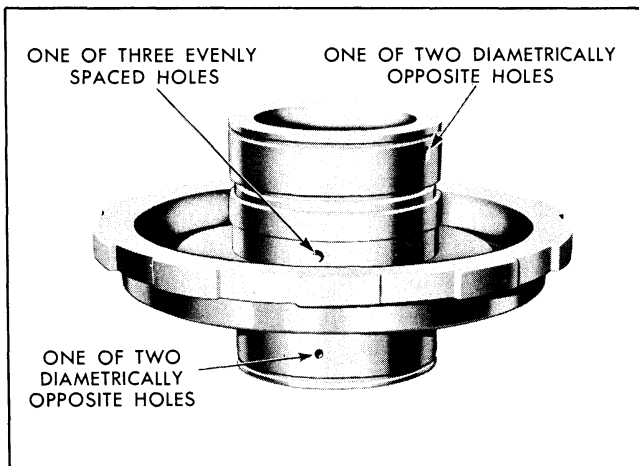

Fig. 7D-79 Passages in Rear Clutch Drum Sleeve (Cylinder)
10. Inspect rear clutch cylinder and bushing assembly for scoring, burrs or damaged lugs. Snap ring and oil seal grooves must be clean and smooth. Inspect drilled passage in cylinder with tag wire and compressed air to see that they are unobstructed (Fig. 7D-79).